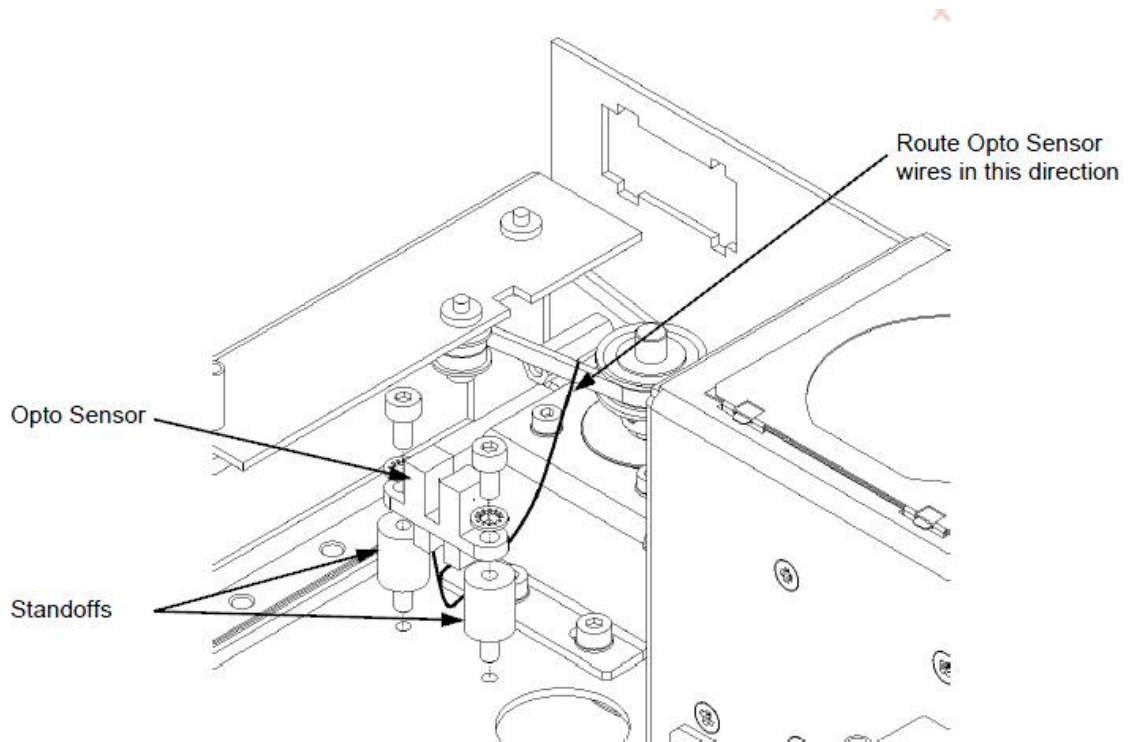

Figure N-15: Motor Pulley and Belt
1. Remove the pulley and belt on top of the motor (Figure N-15).